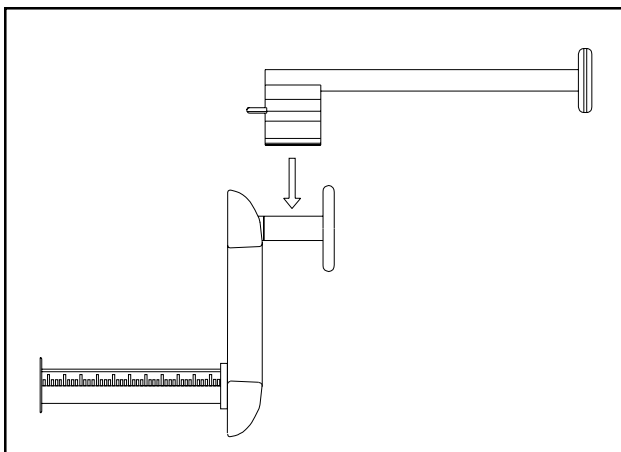

Figure 9
3. Select the appropriate SAPE extension and install as illustrated in *Figure 9*. The display will read: "S-4" in the left window and "L6" in the right. S-4 meaning **Short** 4 inch and L-6 meaning **Long** 6 inch extension. Enter 4 or 6 to indicate which extension was selected.